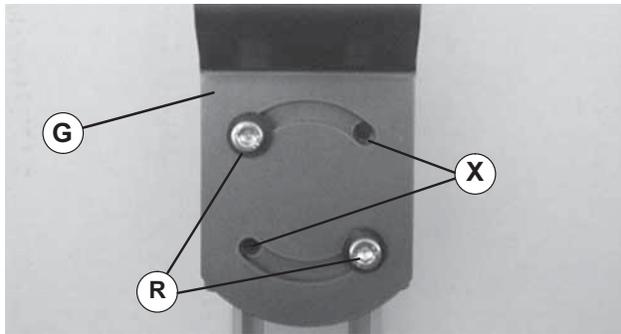

Figure 13
Loosening angle adjustment screws (Figure 13, item R) may cause conveyor sections to drop down, causing severe injury. SUPPORT CONVEYOR SECTIONS PRIOR TO LOOSENING ANGLE ADJUSTMENT SCREWS.
To rotate conveyor mounting bracket (Figure 13, item G), it may need necessary to relocate screws (R) to holes (X).
1. Loosen angle adjustment screws (Figure 13, item R) on both sides of conveyor.
Failure to secure screws (Figure 13, item R) may cause conveyor sections to drop down, causing severe injury.